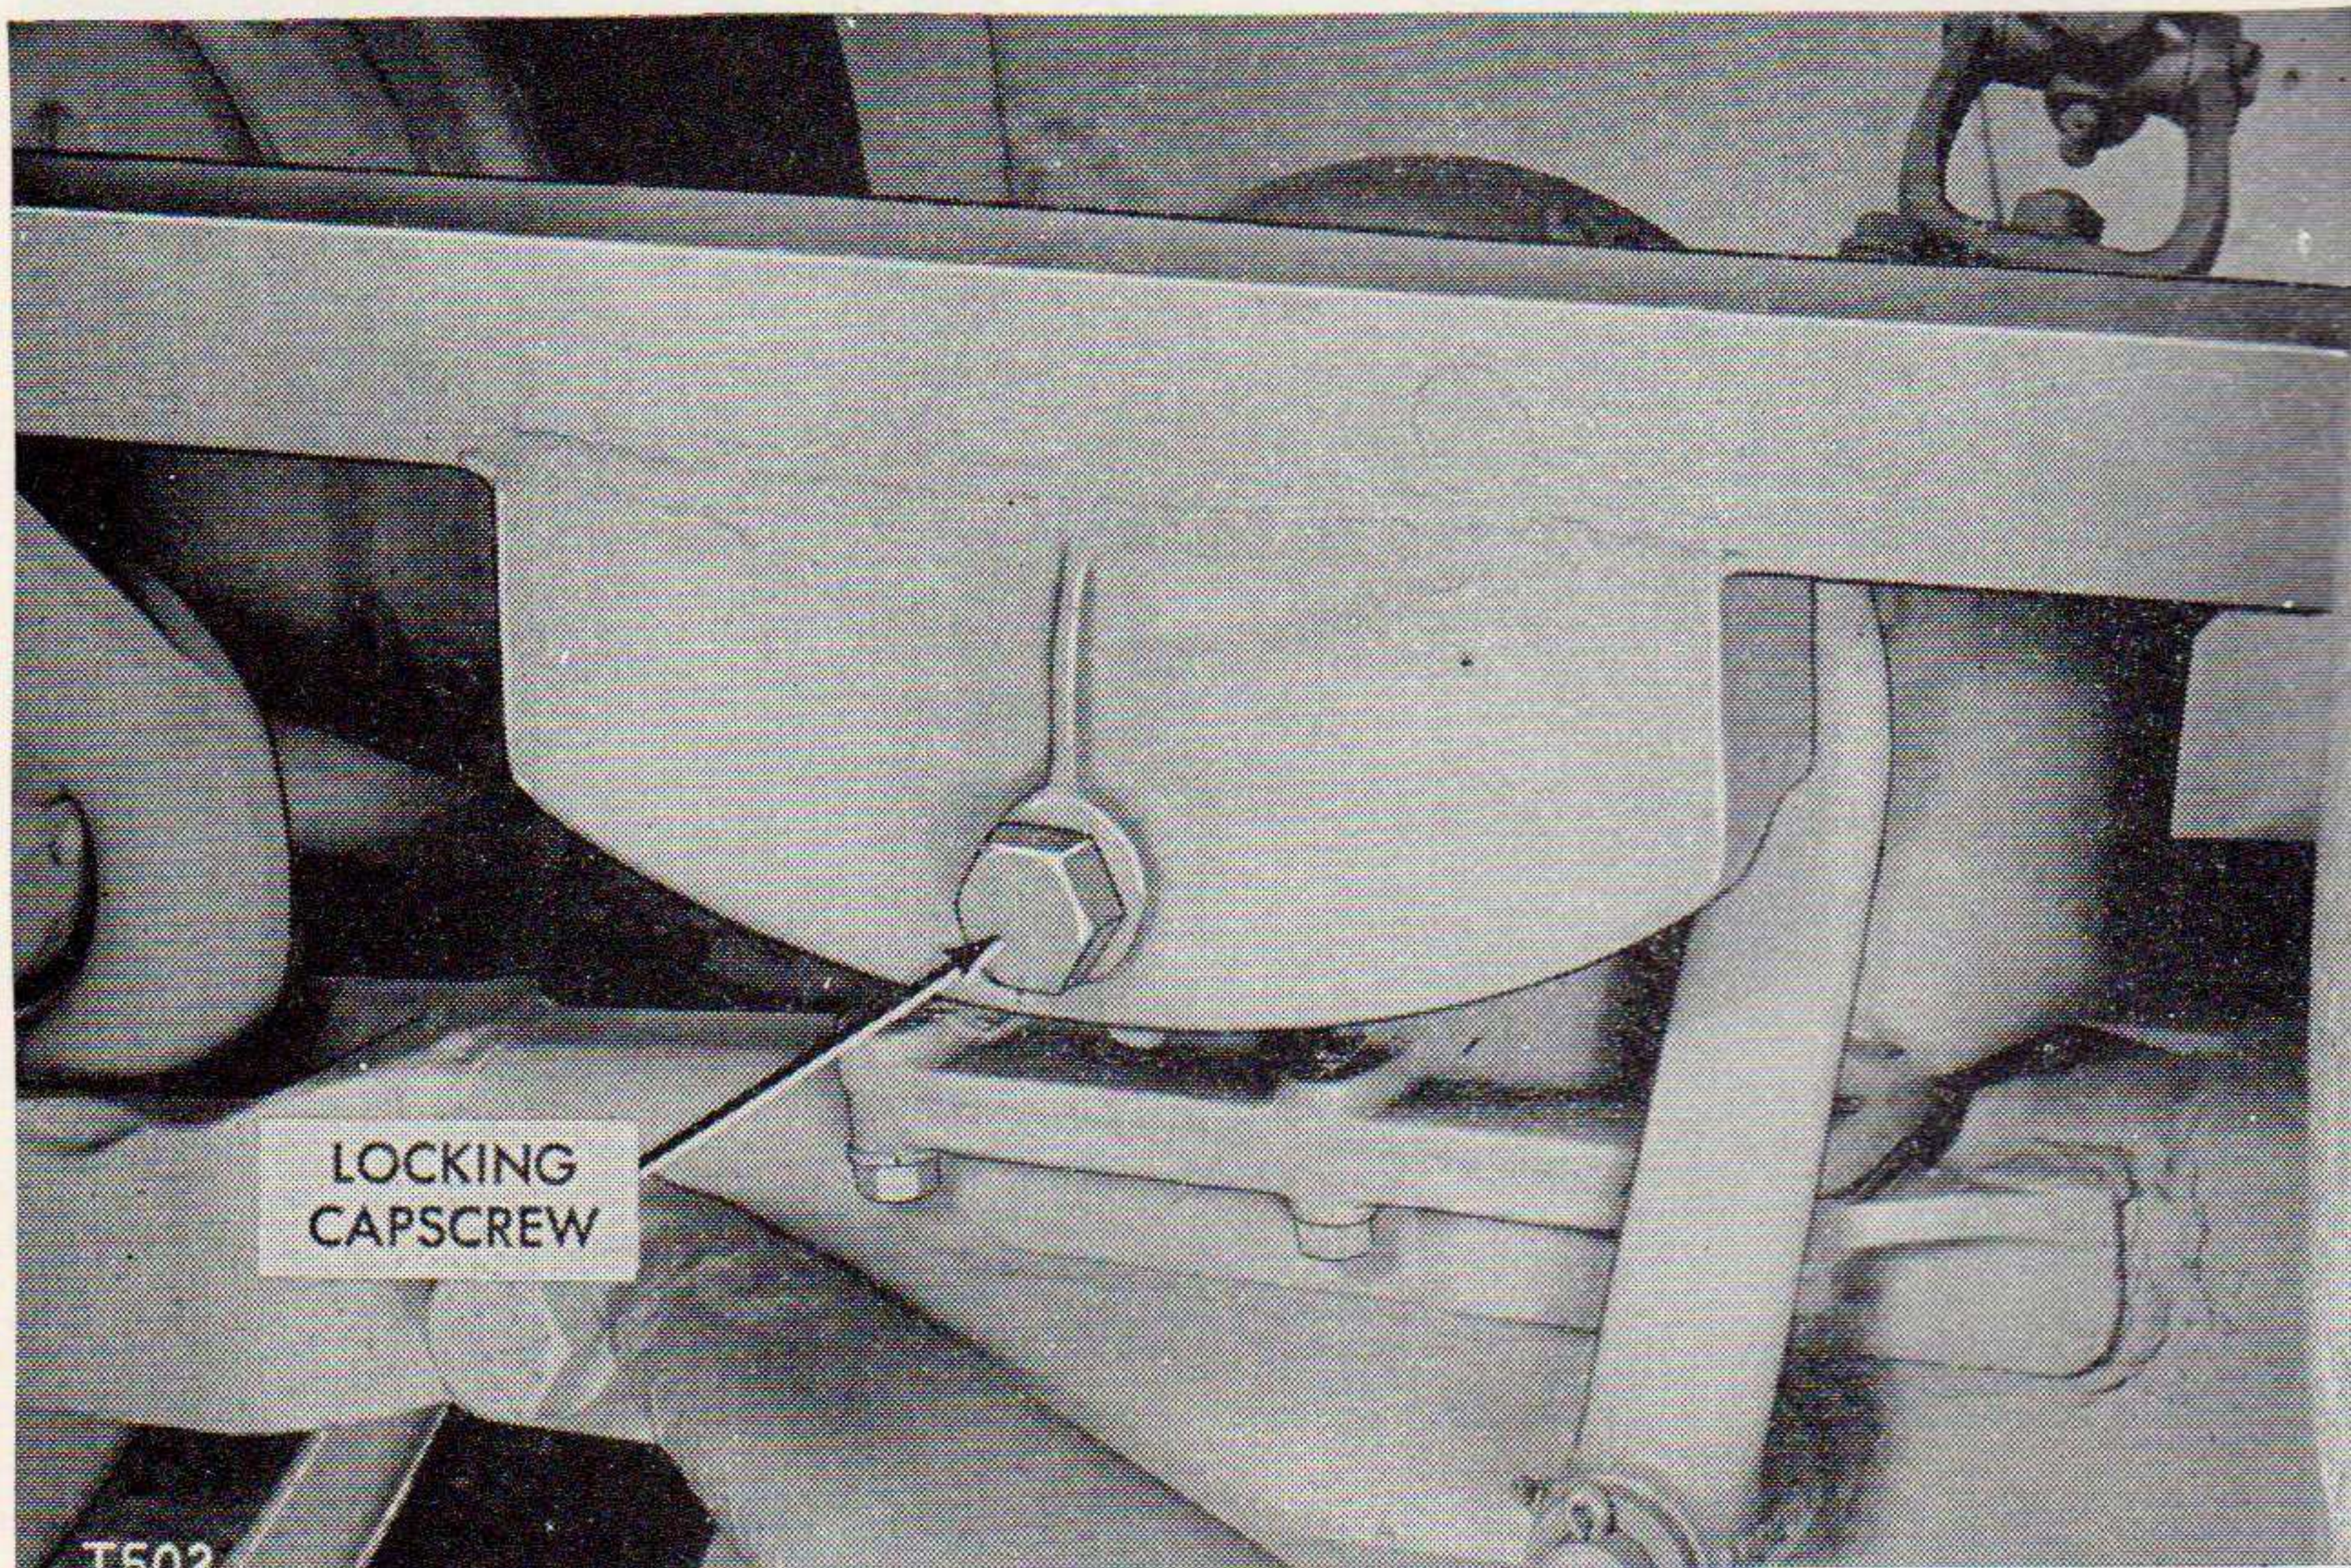

Figure 27. Front wheel tie bar locking capscrew.
**Caution:** Always remove the locking capscrew before operating the front wheel lean control lever. (See fig. 27.) The capscrew is provided to lock the front wheel tie bar to the front wheel lean control housing; thus keeping the front wheels in a vertical position. Unless there is considerable side draft, the front wheels should be operated in a vertical position to get the most service from the tires.